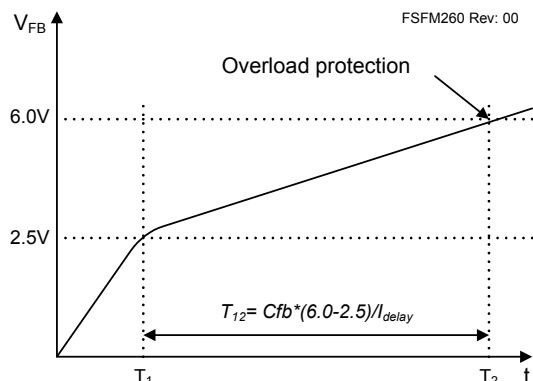

Figure 20. Overload Protection
3.1 Overload Protection (OLP): Overload is defined as the load current exceeding a pre-set level due to an unexpected event. In this situation, the protection circuit should be activated to protect the SMPS. However, even when the SMPS is in the normal operation, the overload protection circuit can be activated during the load transition. To avoid this undesired operation, the overload protection circuit is designed to be activated after a specified time to determine whether it is a transient situation or an overload situation. Because of the pulse-by-pulse current limit capability, the maximum peak current through the SenseFET is limited and, therefore the maximum input power is restricted with a given input voltage. If the output consumes beyond this maximum power, the output voltage (V_O) decreases below the set voltage. This reduces the current through the opto-coupler LED, which also reduces the opto-coupler transistor current, increasing the feedback voltage (V_{FB}). If V_{FB} exceeds 2.5V, D1 is blocked and the 5 μA current source starts to charge C_B slowly up to V_{CC} . In this condition, V_{FB} continues increasing until it reaches 6V, when the switching operation is terminated, as shown in Figure 20. The delay time for shutdown is the time required to charge C_B from 2.5V to 6.0V with 5 μA . In general, a 10 ~ 50ms delay time is typical for most applications.